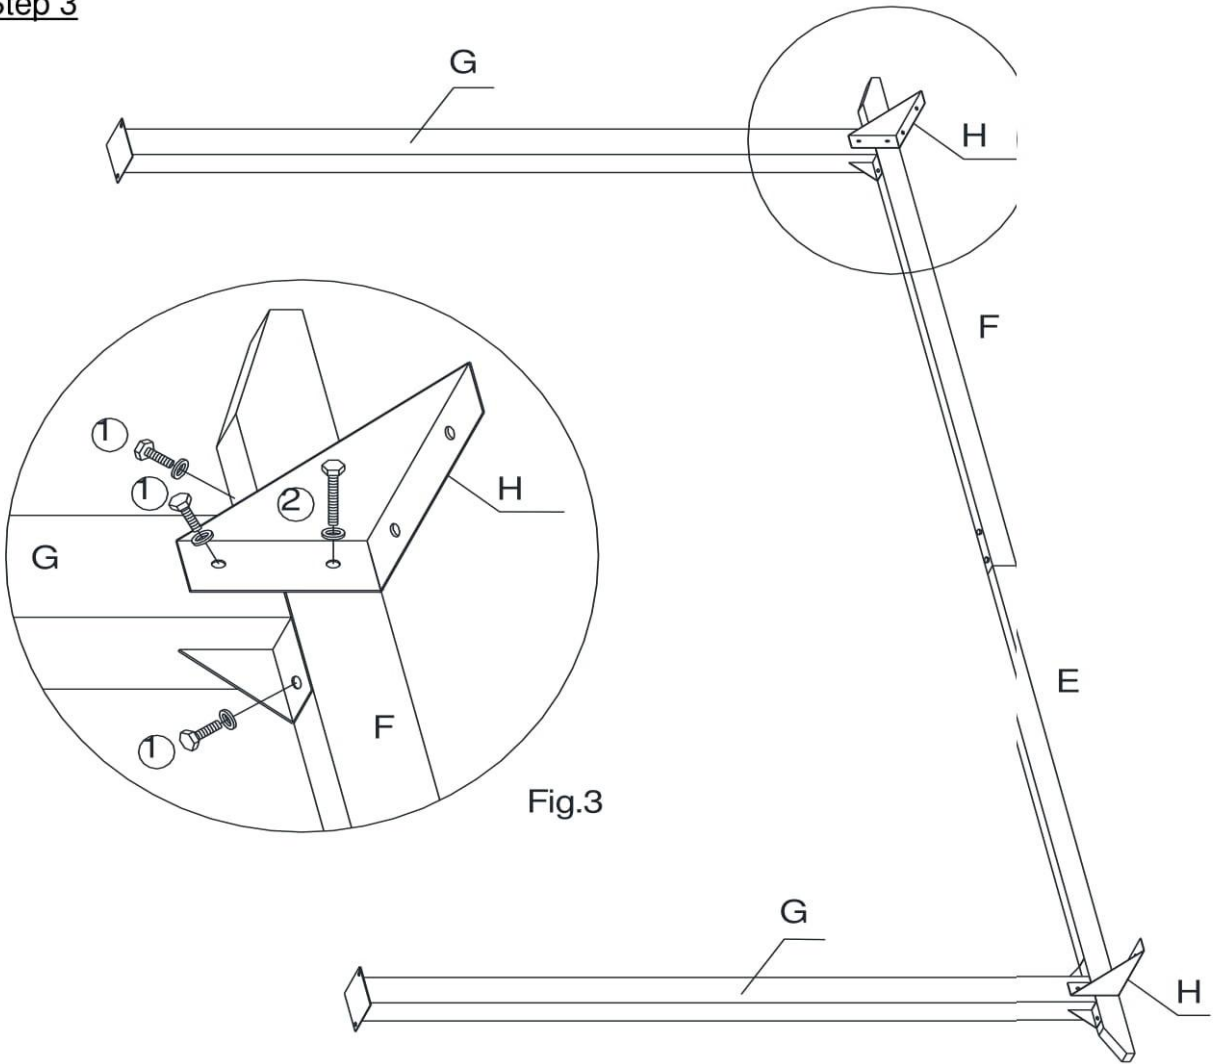

Fig.3
Attach Brace(H) to the Main Pillar(G) using Bolts(①) and Bolts(②) with Wrench(⑤). (See Fig. 3) (See g. 5)